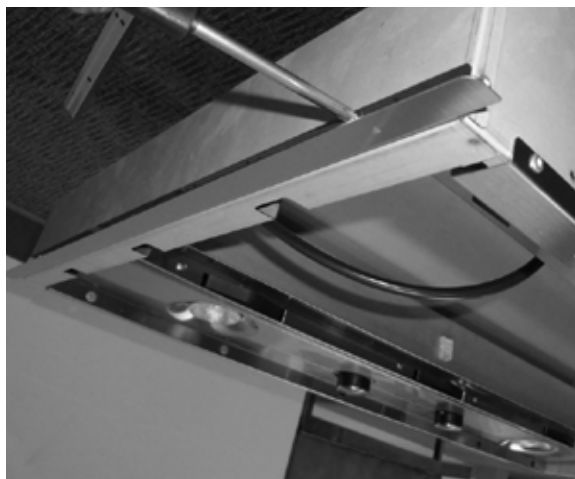

FIGURE 9
2. Remove the white plastic covering and install the 4 side trim pieces to the outside of the hood using (16) part 9b screws, see the side trim installation in (FIGURE 9).